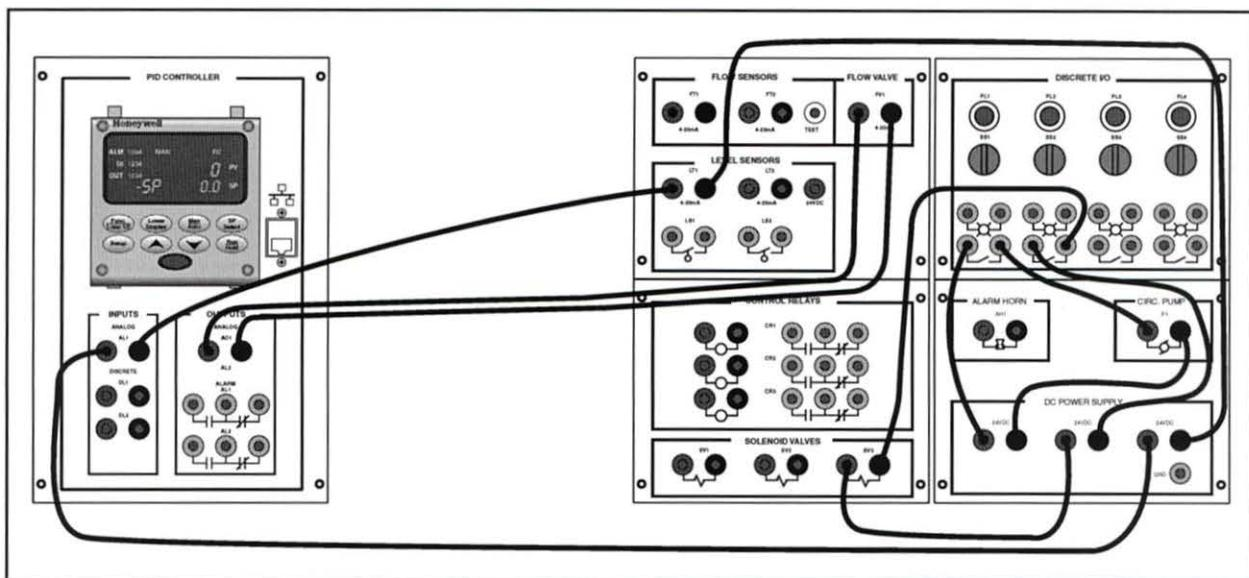

Figure 36. Level Control Circuit
E. Connect the circuit shown in figure 36.